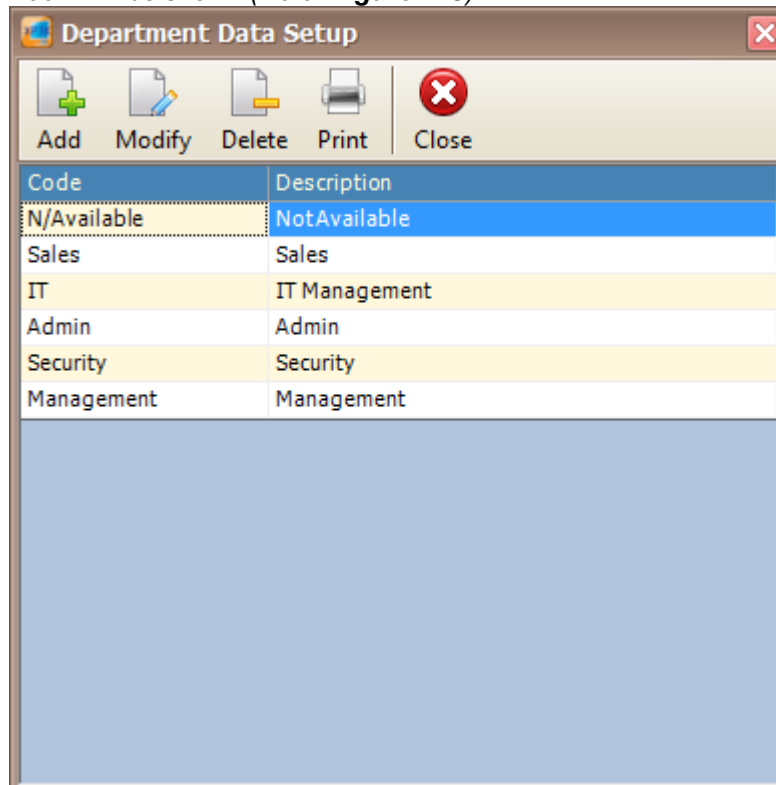

Figure 218 - Department Setup
2. The following window will be shown (Refer **Figure 218**).